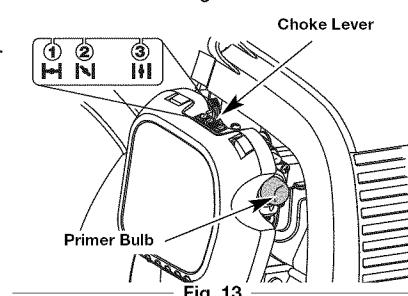
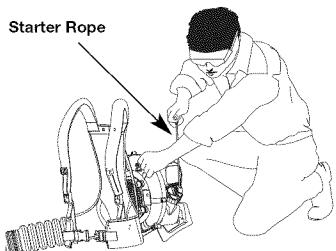

Fig. 13
Fig. 14
WARNING: Avoid accidental starting. Make sure you are in the starting position when pulling the starter rope (Fig. 14). To avoid serious injury, the operator and unit must be in a stable position while starting. To avoid serious personal injury, make sure that the blower tube is locked in place or firmly installed.
3. Slowly press and release the primer bulb 10 times. (Fig. 13). If fuel cannot be seen in the bulb, press and release the bulb until fuel is visible.
4. Move the choke lever to Position 1 (Fig. 13).
5. Crouch in the starting position (Fig. 14). DO NOT squeeze the throttle control. Pull the starter rope 5 times in a controlled motion.
6. Move the choke lever to Position 2 (Fig. 13).
9. **Continue to squeeze the throttle control.** Move the choke lever to **Position 3** (Fig. 13) and continue warming the engine for an additional 60 seconds. During this time the unit may be used.
3. Slowly press and release the primer bulb **10 times** (Fig. 13). If fuel cannot be seen in the bulb, press and release the bulb until fuel is visible.
4. Move the choke lever to **Position 1** (Fig. 13).
5. With the unit in the starting position (Fig. 14). Place the Plug-In Power Start or Power Bit Start into the back of the unit. Refer to Operation section of the Plug-In Power Start or Power Bit Start operator's manual.
6. **Do Not squeeze the throttle control**, press and hold the Plug-In Power Start or drill's ON (I) button for 2 seconds.
7. Move the choke lever to **Position 2** (Fig. 13).
8. **Do Not squeeze the throttle control**, press and hold the Plug-In Power Start or drill's ON (I) button for 2 second intervals until unit starts.
11. **Continue to squeeze the throttle control.** Move the choke lever to **Position 3** (Fig. 13) and continue warming the engine for an additional 60 seconds. During unit may be used during this time.
2. Press and hold the On/Off Control in the OFF (O) position until the unit comes to a complete stop. (Fig. 14)